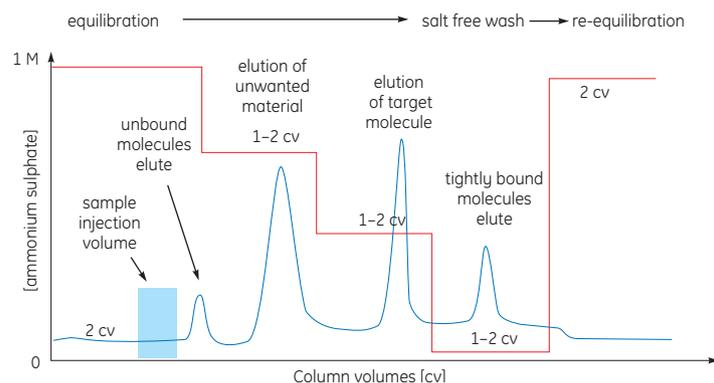

Fig 4. Typical HIC step elution.
4. For large scale purifications, transfer to step elution to reduce separation times and buffer consumption, as shown in Figure 4.